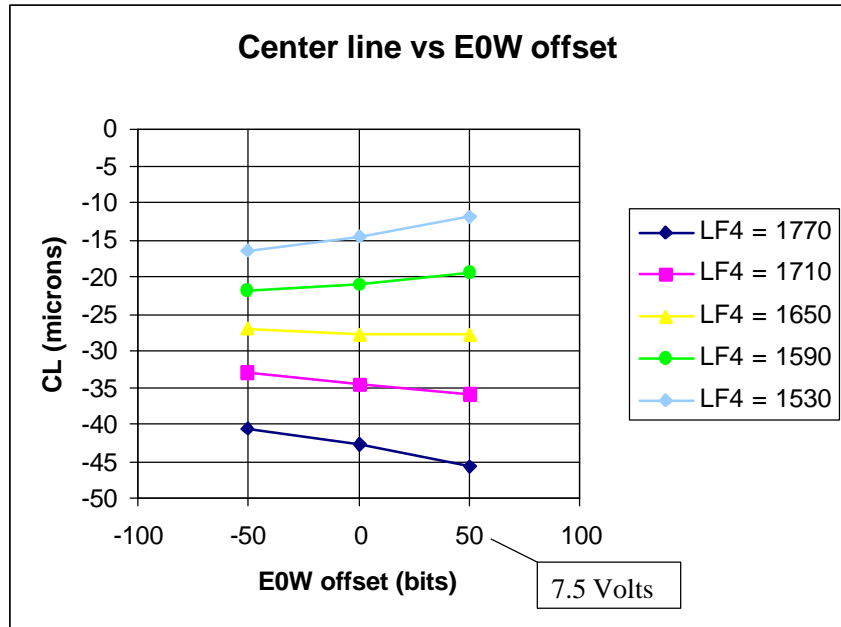

Figure 14: Beam position vs E0W offset.
- ☐ Record 3 HMR spectra for each LF4, corresponding to 3 different values of E0W offset (figure 14)